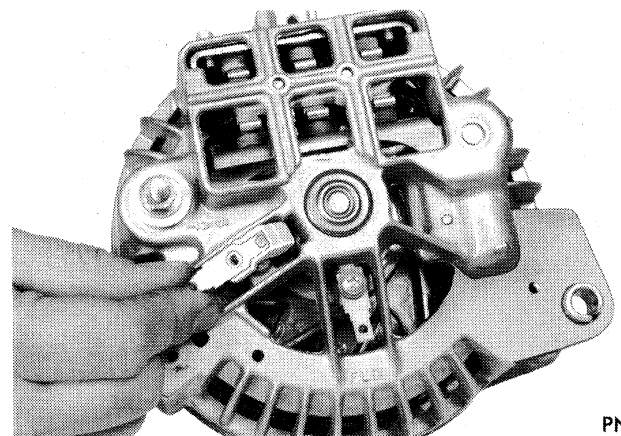

Fig. 12—Removing Field Brushes
- (1) Remove the brush screws, insulating washers and lift brush assemblies from end shield (Fig. 12).